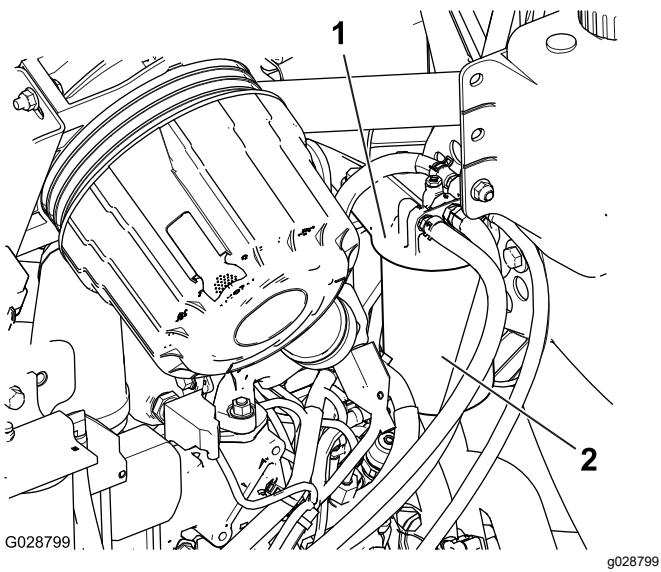

Figure 49
1. Clean the area around the fuel-filter head (Figure 49).
2. Remove the filter and clean the filter head mounting surface (Figure 49).